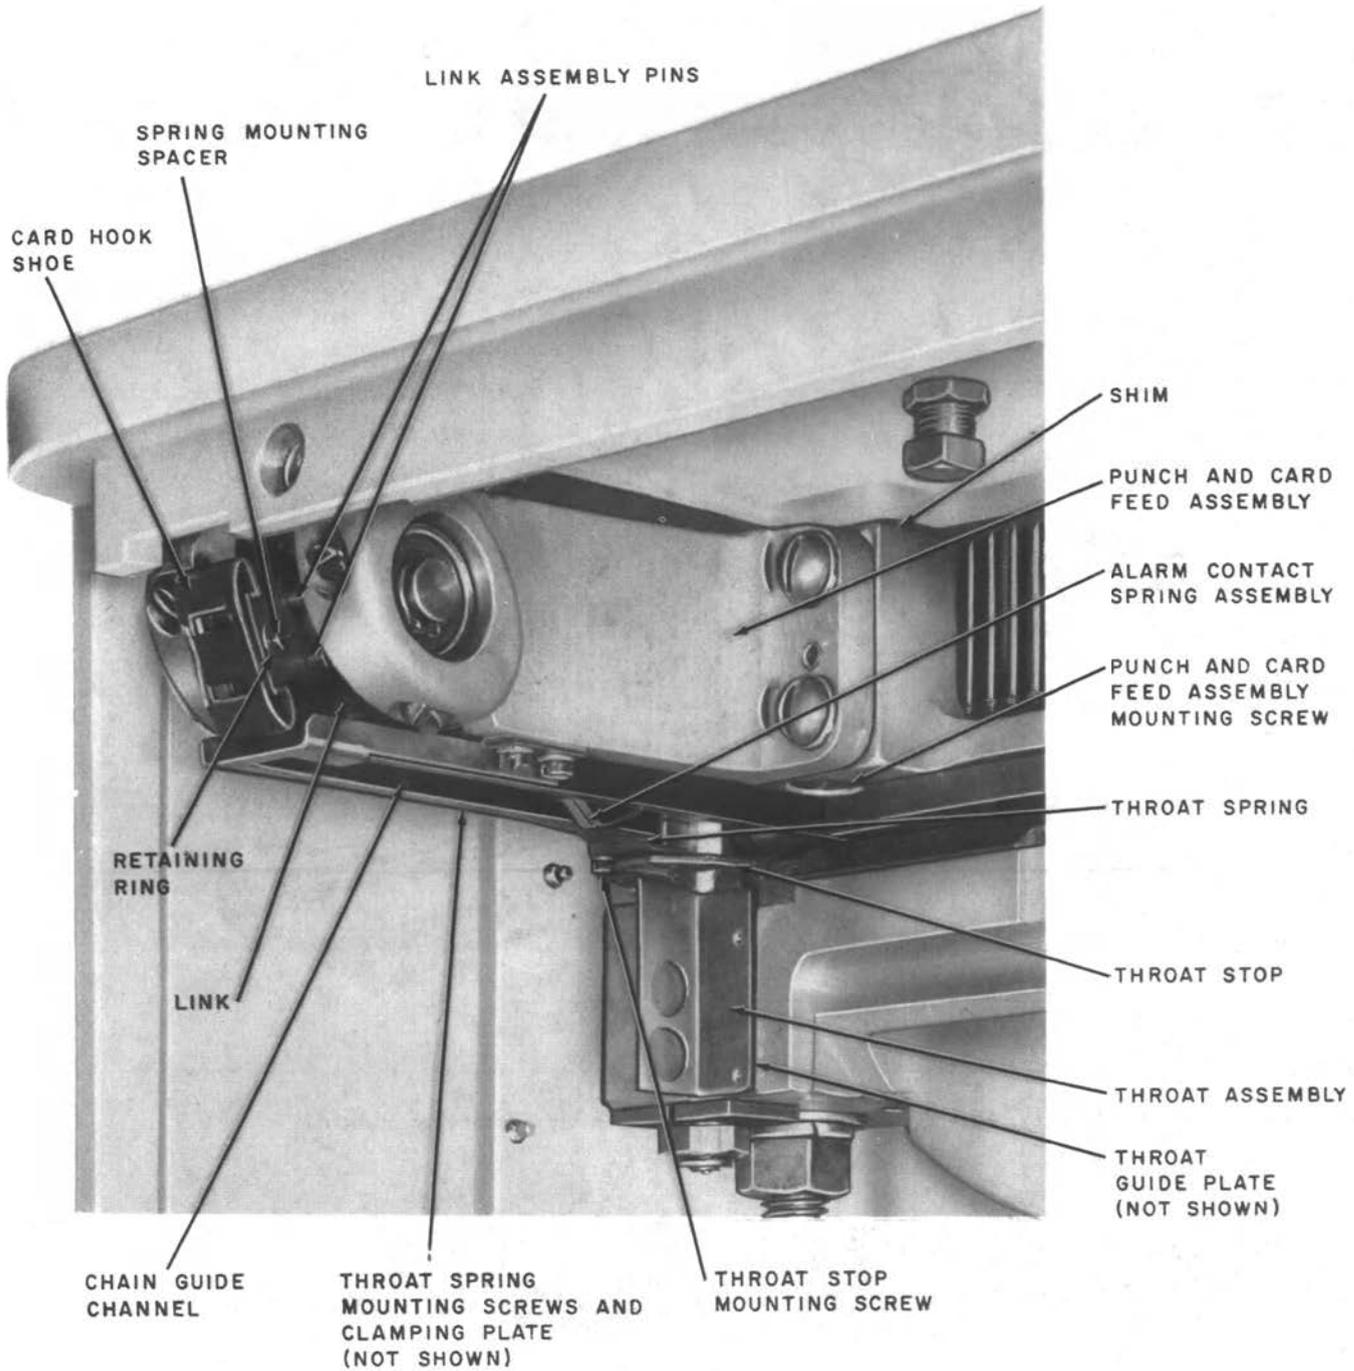
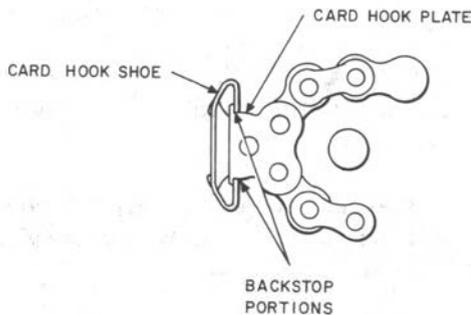

Fig. 46—KS-13904 Punch and Card Feed Assembly (In-Bin Removed)
Fig. 47—Position of Card Hook Shoe
3.50 Throat Assembly: To replace the throat assembly (Fig. 46), proceed as follows.
3.51 Throat Guide Plate: To replace the throat guide plate (Fig. 46), proceed as follows.
3.52 Throat Stop: To replace the throat stop (Fig. 46), proceed as follows.
3.53 Throat Spring: To replace the throat spring (Fig. 46), proceed as follows.
3.54 Alarm Contact Spring Assembly: To replace the alarm contact spring assembly (Fig. 46), proceed as follows.
3.55 Card Hook Shoe: To replace a card hook shoe (Fig. 46 and 47), proceed as follows.
- (1) Open the in-bin door.
- (2) Place the manual control handle on the stub shaft.
- (3) Manually operate the LCH magnet armature and rotate the handle clockwise.
- (4) Release the LCH armature.
- (5) Continue to rotate the handle until the card hook shoe is about to enter the chain guide channel, as shown in Fig. 46.
- (6) Remove the retaining ring from the end of the spring mounting spacer by inverting the E-0120 Waldes Truarc applicator and pressing it against the open end of the ring.
- (7) Move the link assembly to the left by pushing on the two large link assembly pins using the 3-inch C screwdriver.
- (8) Slide the card hook shoe to the left.
- (9) Grasp the link using the 485A pliers and remove the link from the link assembly pins.
- (10) Remove the card hook shoe by sliding it to the right.
- (11) Mount the replacement card hook shoe by sliding it over the card hook spring from right to left, taking care not to damage the spring.
- (12) Press lightly on the shoe to hook the tip under the back portion of the link, as shown in Fig. 47.
3.57 Card Hook Shoe Link Assembly: To replace a card hook shoe link assembly (Fig. 46, 48, and 49), proceed as follows.